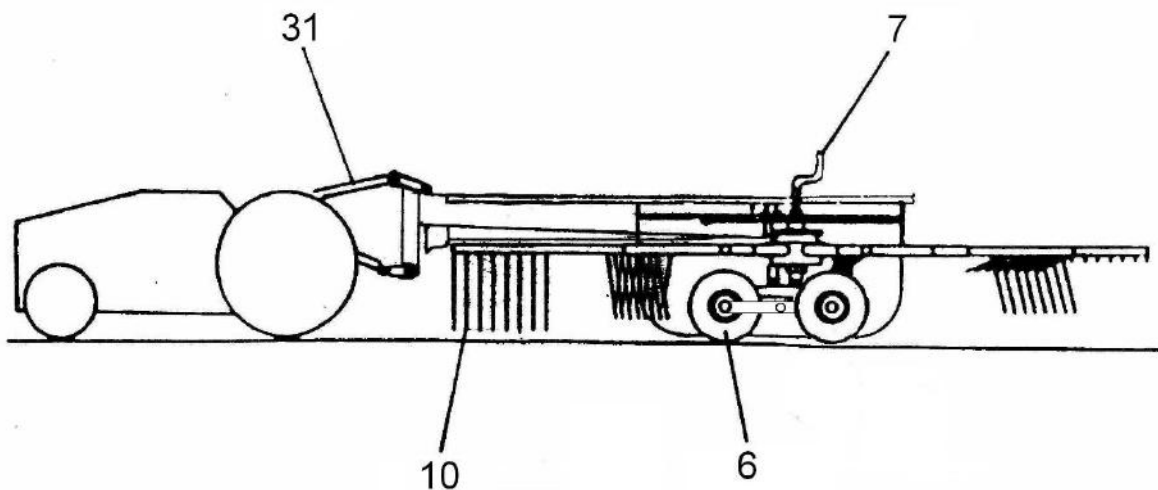

Fig. 3
- **PRIOR TO PROCEEDING** to adjust ground clearance of the raking teeth using the crank (item 7 fig. 3), stop the tractor engine, remove the key from the ignition and engage the handbrake.
Raking quality is directly dependent on the position of raking teeth ends 10 (Fig. 3) relative to the ground.
- tilting of hay rake frontwards or backwards, depending on the length setting of three-point linkage central link 31 of tractor. (Fig. 3)